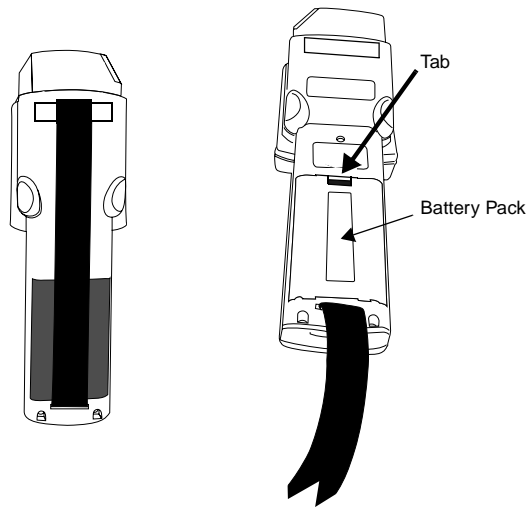

Figure 6-3. PDT 3500 Battery Pack Removal
3. Grasp the tab (shown in Figure 6-3) at the top of the battery pack and pull back.